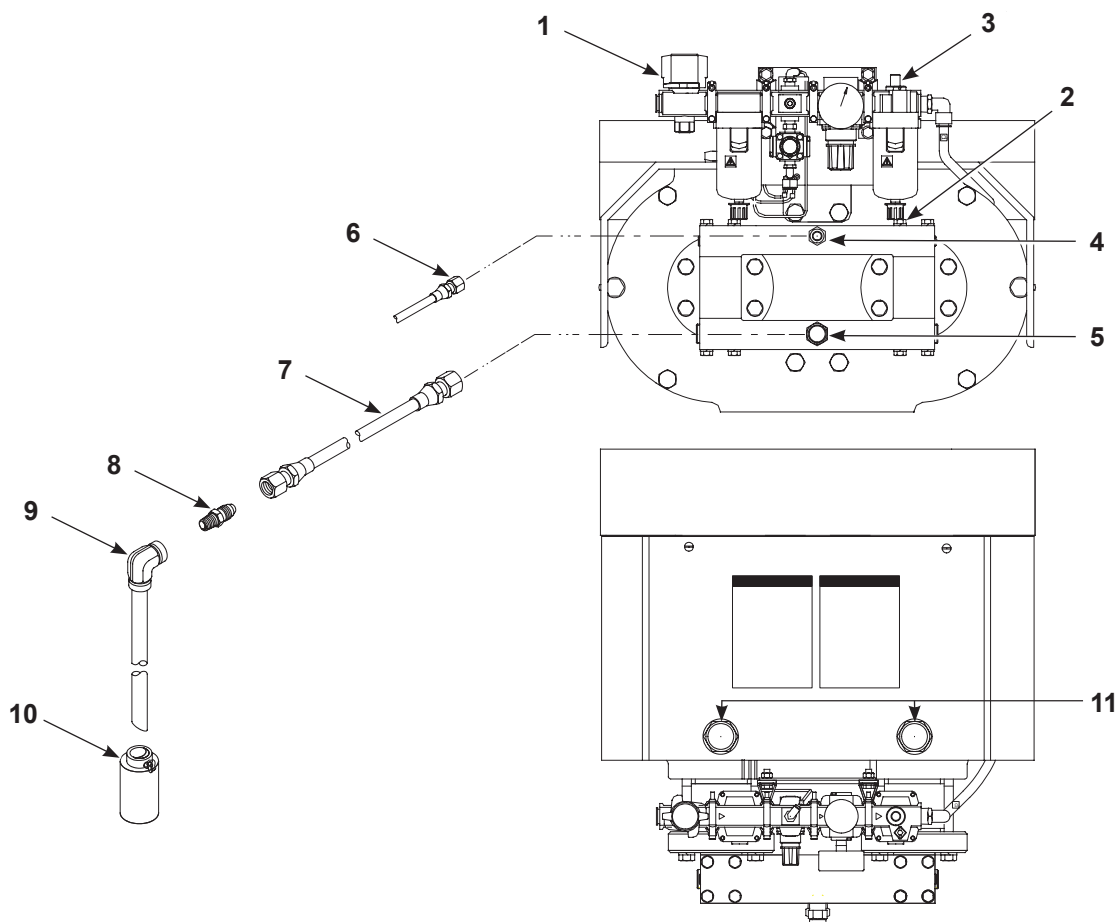

Figure 3-3 Air and Fluid Connections
See Figure 3-3. The pump requires 5.5 bar (80 psi) maximum input air at 0.5 m3/min (17.16 cfm) to operate at 45 strokes per minute. The air supply hose should be 12.7 mm (0.50 in.) minimum ID.
See Figure 3-3. All tubing and fittings installed on the pump must be stainless steel. Coat all fitting threads liberally with pipe joint adhesive and tighten securely to eliminate siphoning of air.
1. See Figure 3-3. Use Nordson Type-Q or -T solvent chamber fluid for waterborne coatings. Remove the air filter caps (2) and fill the solvent chambers to 102 mm (4 in.) from the top.
2. Remove the lubricator cup (3) and fill it with the vitalizer oil (provided).